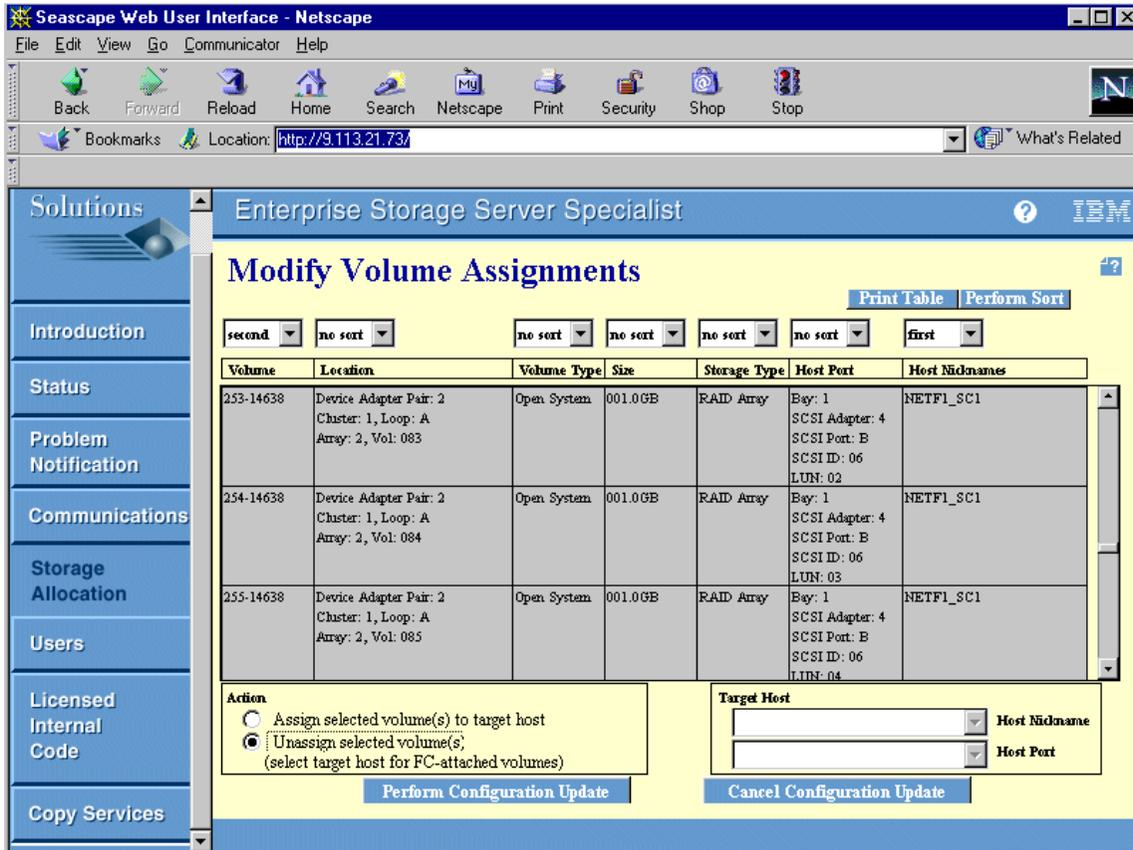

Figure 40. Modify Volume Assignments frame on ESS Specialist
- g. Click on **Perform Configuration Update**. Once done, click **OK** (Figure 40).
7. Unassign all LUNs on the ESS using the ESS Specialist which were assigned to the server by SCSI and assign them to a Fibre Channel port. This is where WWPN information becomes important, because this will be used to configure the ESS in the **Modify Volume Assignments** screen. See Figure 40 on page 59.